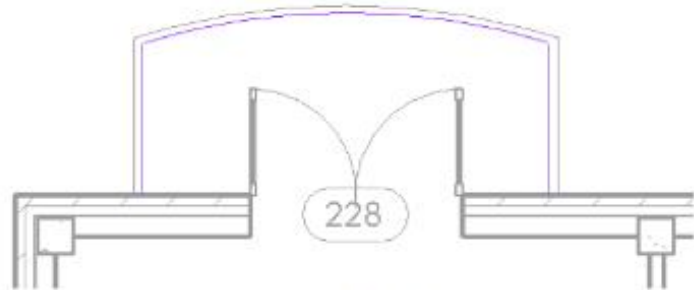

Figure 12–43
7. Add balcony railings, as shown in the sketch in Figure 12–43, using the same parameters as the inside balcony railing.